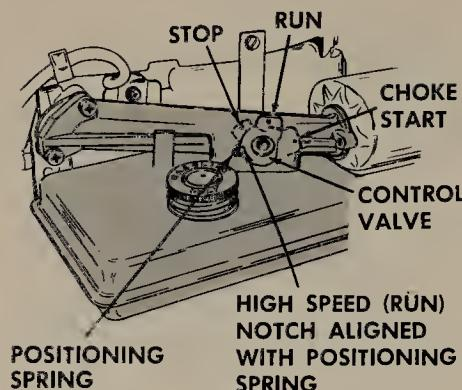

FIGURE 8.19 Exterior view of a suction-feed carburetor with a single control for starting, running, and stopping.
8.14 Suction-feed Carburetor with Single Control. One model of suction-feed carburetor gets along with a single control valve which provides for choking, running, and stopping the engine. A carburetor of this type is shown in Fig. 8.19 with the three positions of the valve indicated. The valve is in the shape of a half cylinder set in a hollow cylinder, as shown in Fig. 8.20. The valve can be rotated into the three positions to provide for engine control. For example, when the control valve is positioned as shown in Fig. 8.20, the air flow through the carburetor is pretty well choked off. Therefore, a high vacuum will develop on the intake stroke as the engine is cranked. This high vacuum will cause a heavy flow of fuel from the tank so the engine receives a rich mixture for starting.